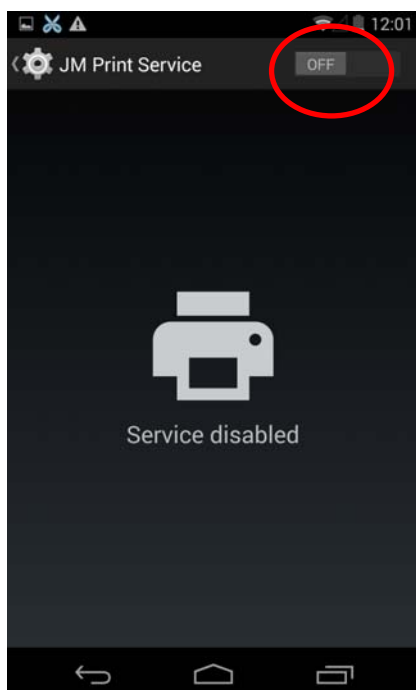

Figure 23
3.4 Switch the "JM Print Service" function from "OFF" to "ON", as shown in Figure 23.